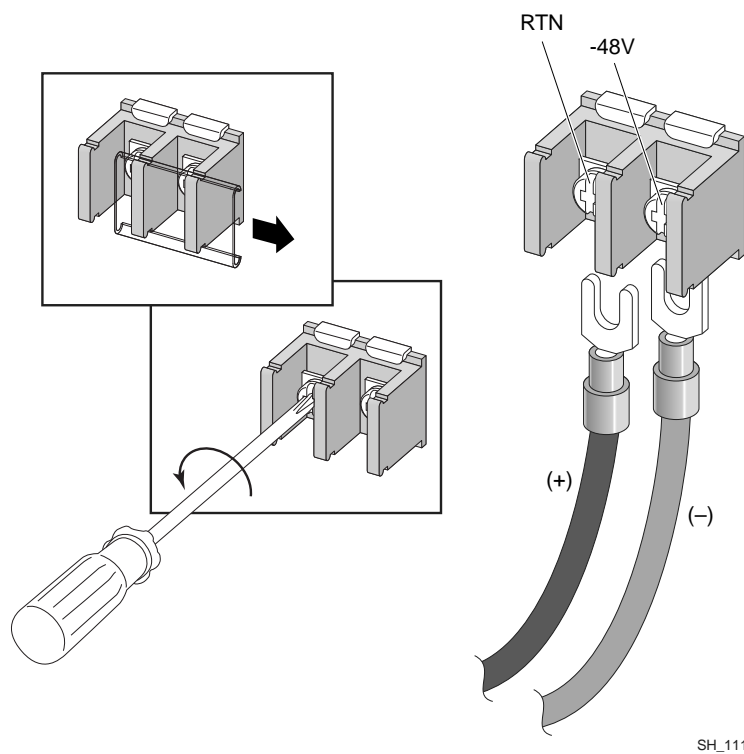

Figure 286: Connecting the DC Power Cables (Part 1)
- 2 Slide the cover off the terminal block (Figure 286: Connecting the DC Power Cables \(Part 1\) on page 312).